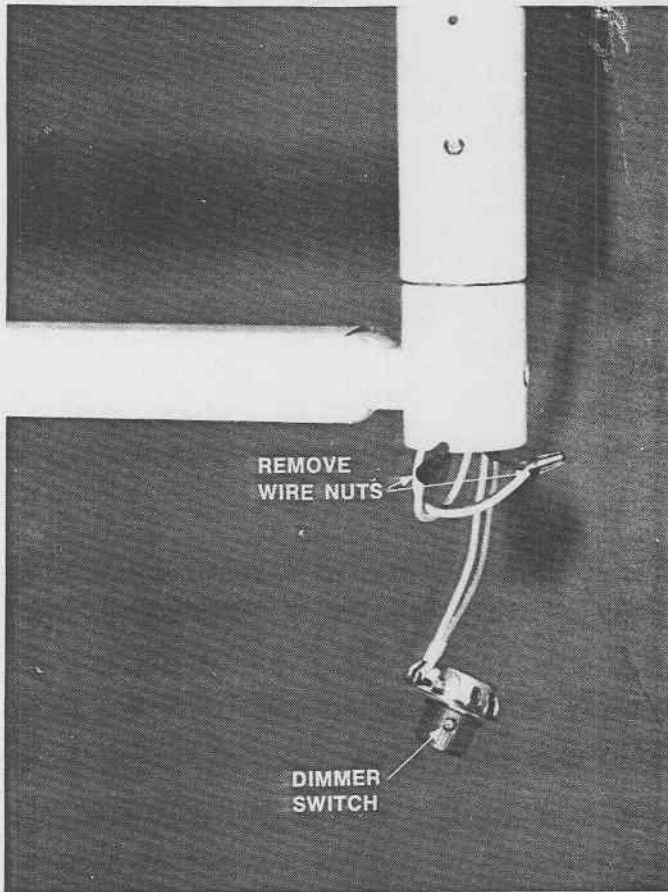

FIGURE 27—DISCONNECTING WIRES
- B. Pull out dimmer switch, locate and remove two wire nuts from wires leading from front arm (Figure 27).